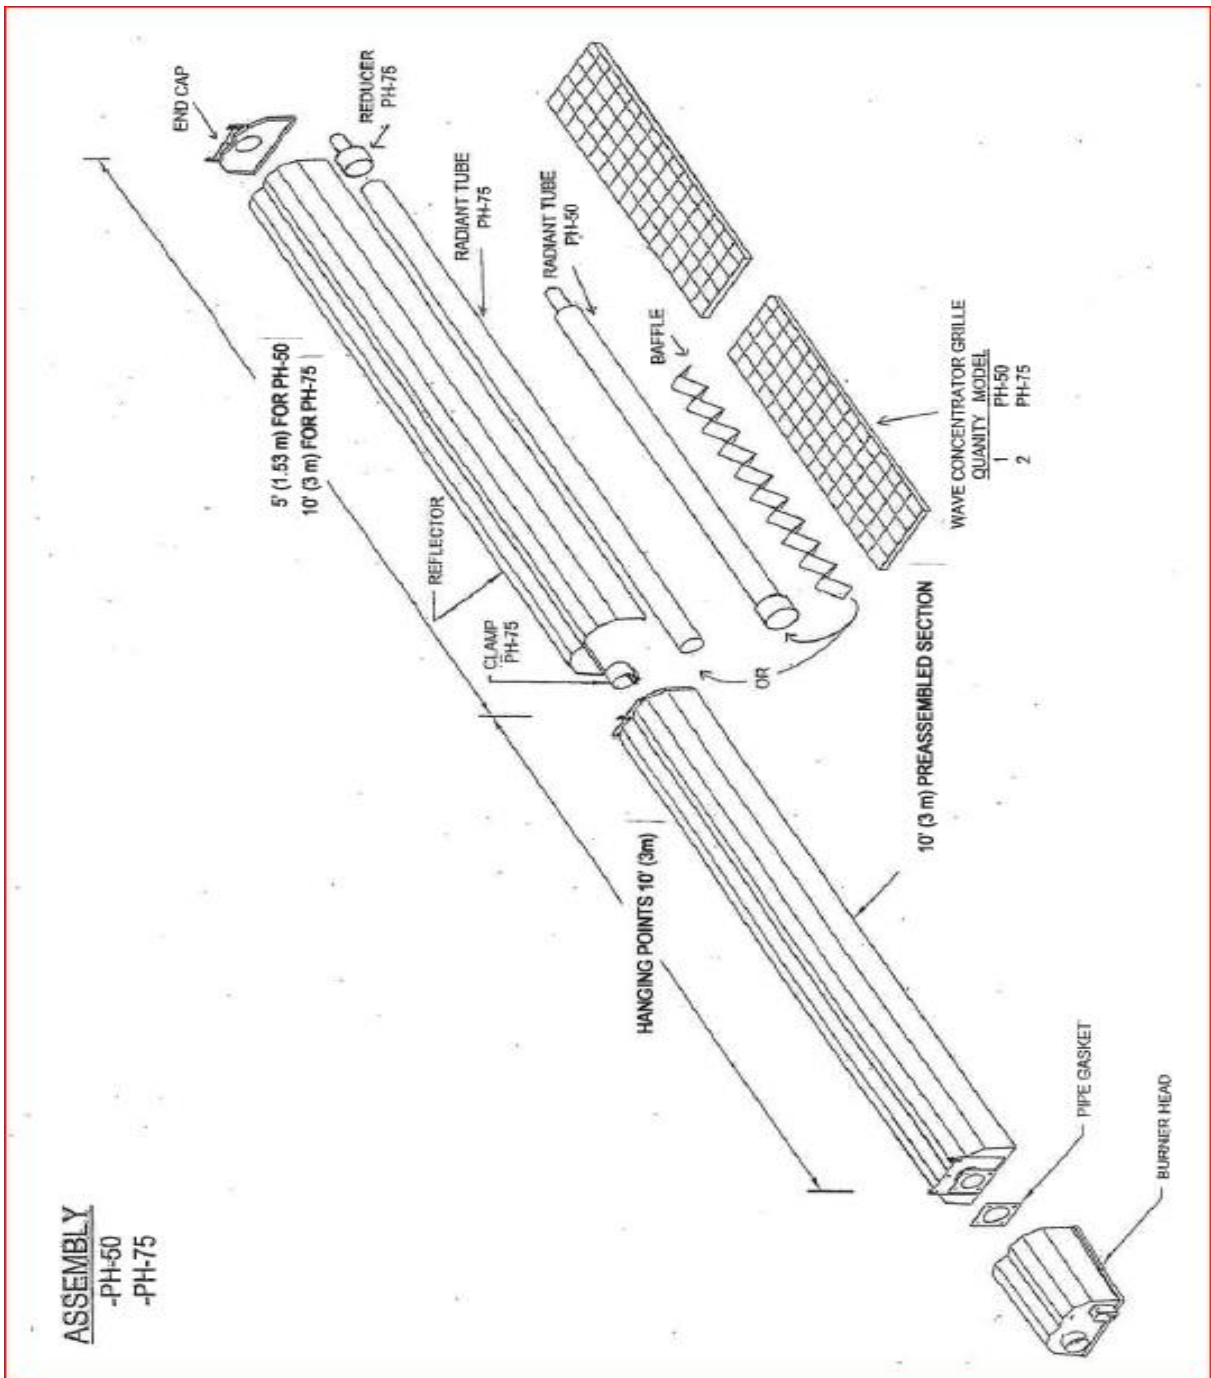

Figure 9. PH-50 & 75 ASSEMBLY
- 7) Install radiant tube by positioning three (3) inch (7.62 cm) end into end cap from below, and butting the other end to the previously installed section. Secure clamp with self tapping screws (see figure 9 page 13). For PH-50 tube slides over the first 10' (3m) section tube. Secure with screws.